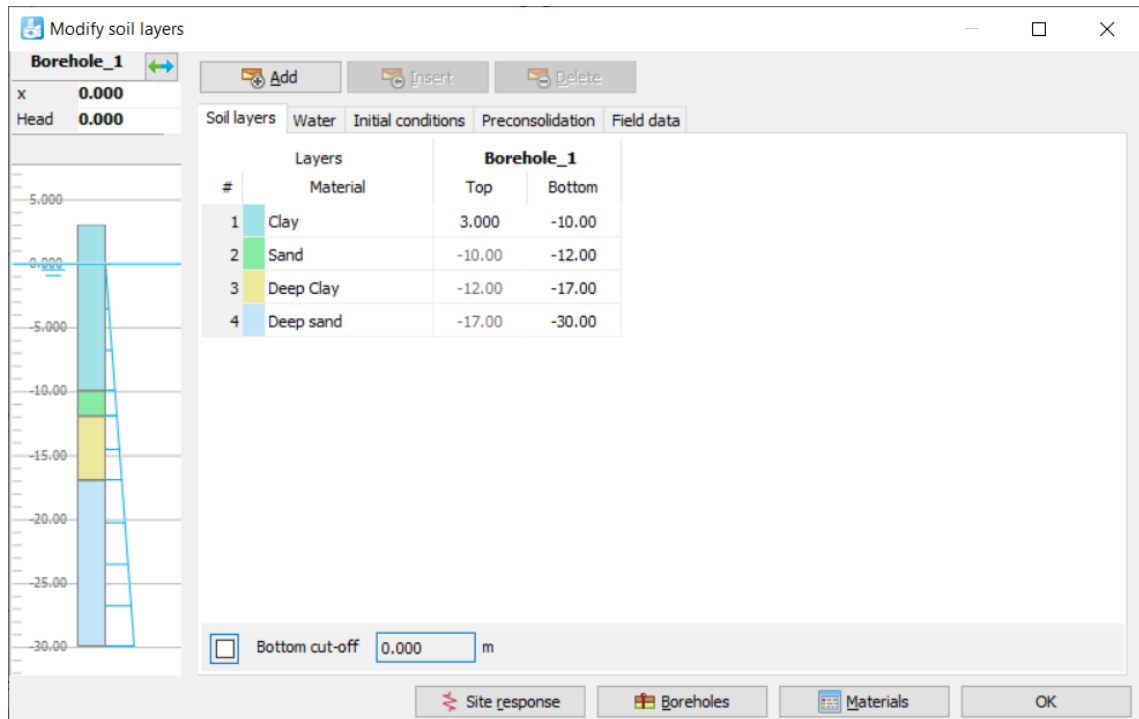

Figure 5–2: The soil stratigraphy in the Modify soil layers window
- 2 Create the soil stratigraphy as shown in Figure 5–2 \(p. 94\).